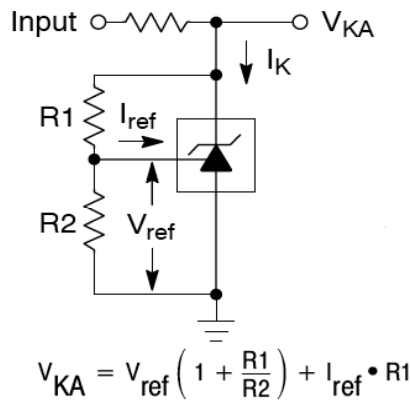

Figure 2: $V_{KA} > V_{REF}$
* When the device operating with two external resistors, R1 and R2, (refer to Figure 2) the total dynamic impedance of the circuit is given by: